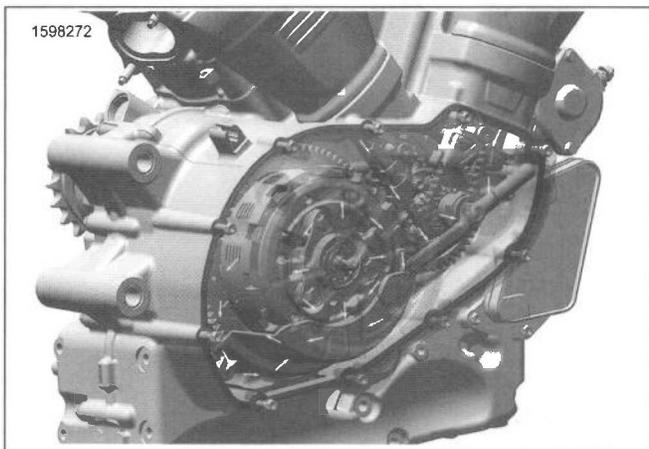

Figure 4-2. Clutch Cavity
1. See Figure 4-2. The clutch cavity, located on the right side of the engine, catches return oil from the following areas.